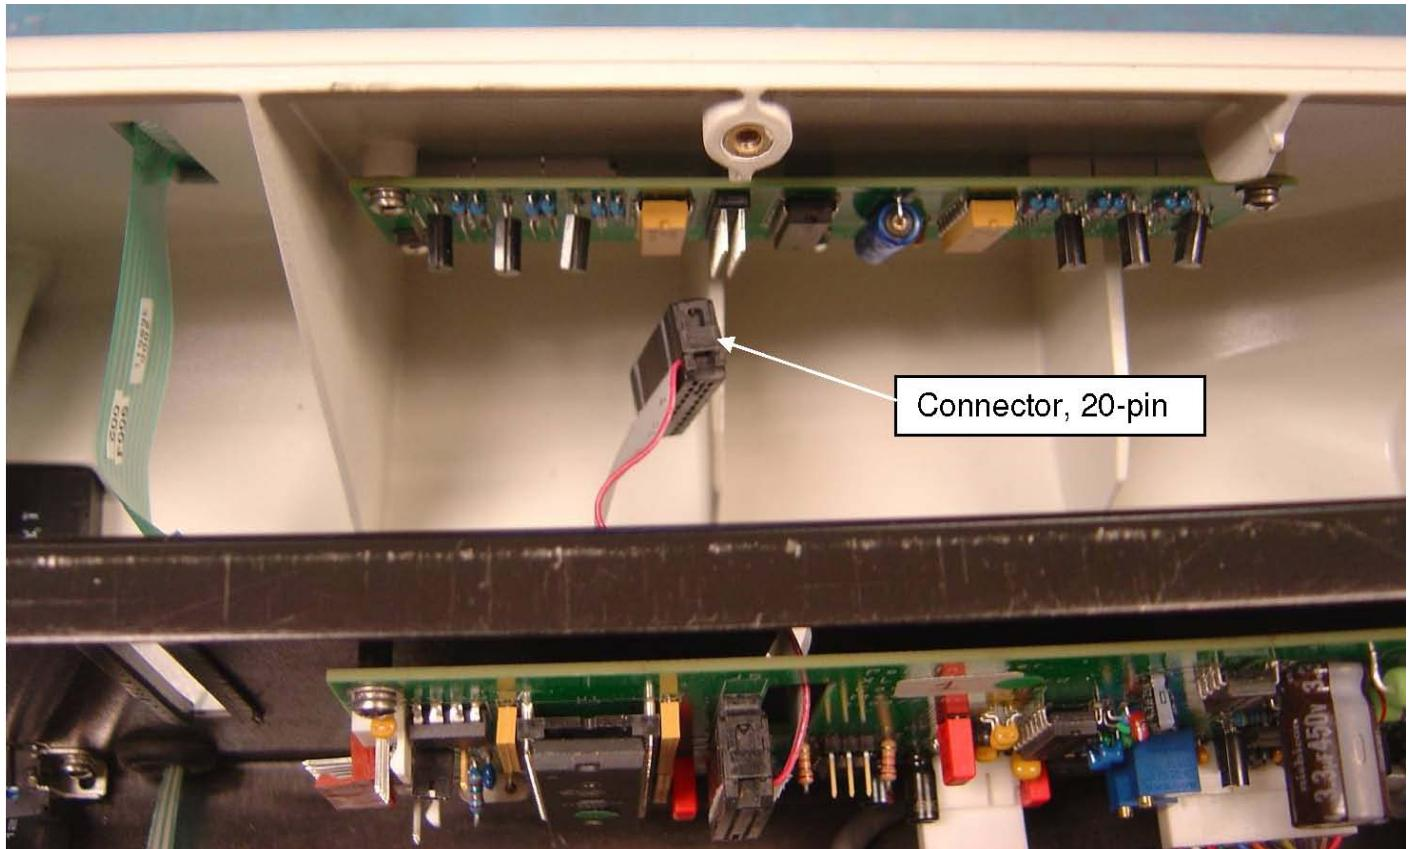

Figure 14
3. Disconnect the 20-pin (J12) connector from the Display Board – Fig. 14.